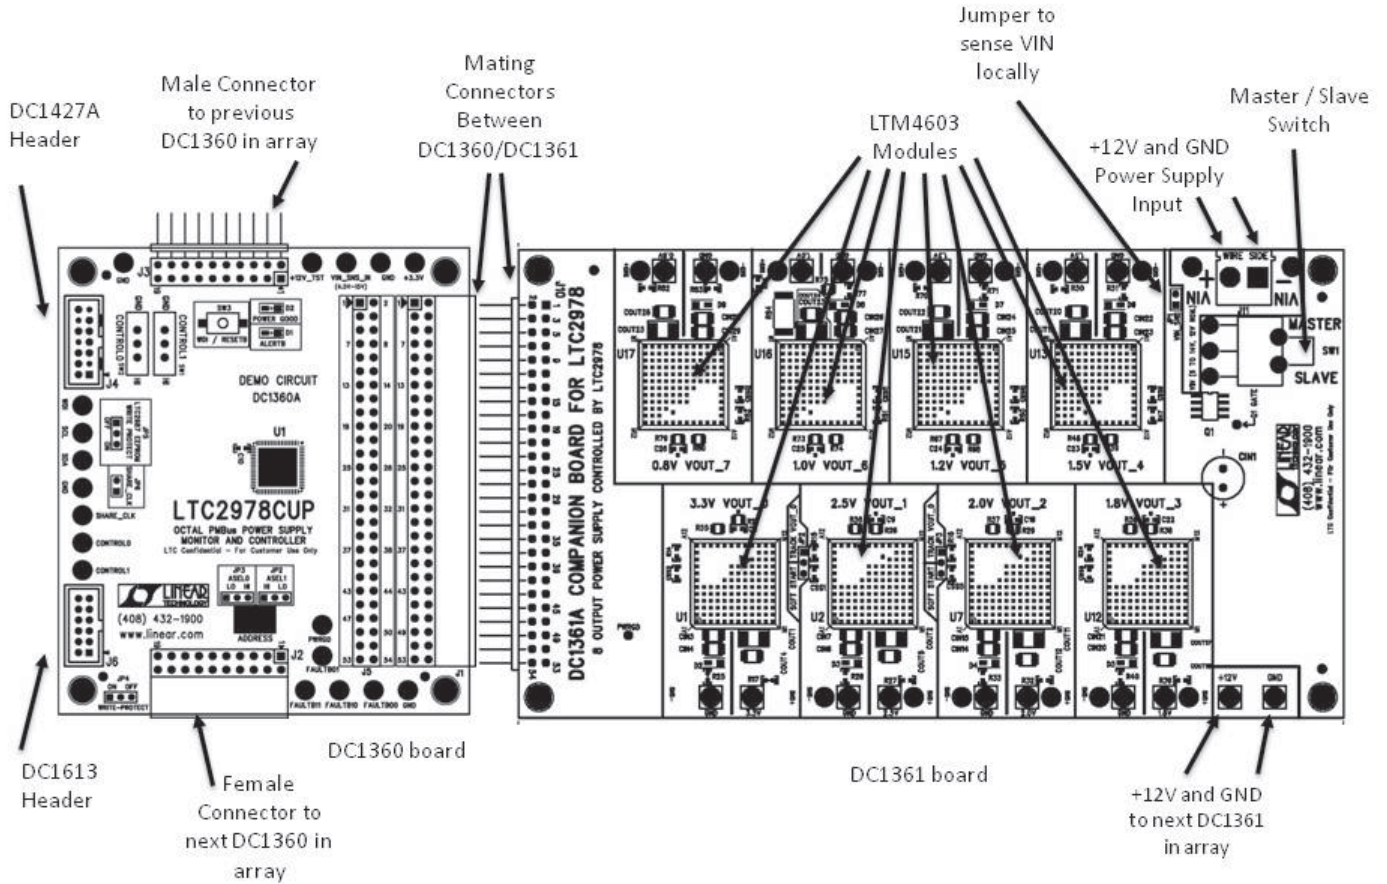

Figure 5. DC1540A Details
6. Connect a 12V power supply with > ½ Amp capacity to the V_{IN}⁺ and V_{IN}⁻ inputs of the green terminal block J11 on DC1361A. Do not turn on 12V yet. Be careful to hook up polarity correctly! See Figure 5.